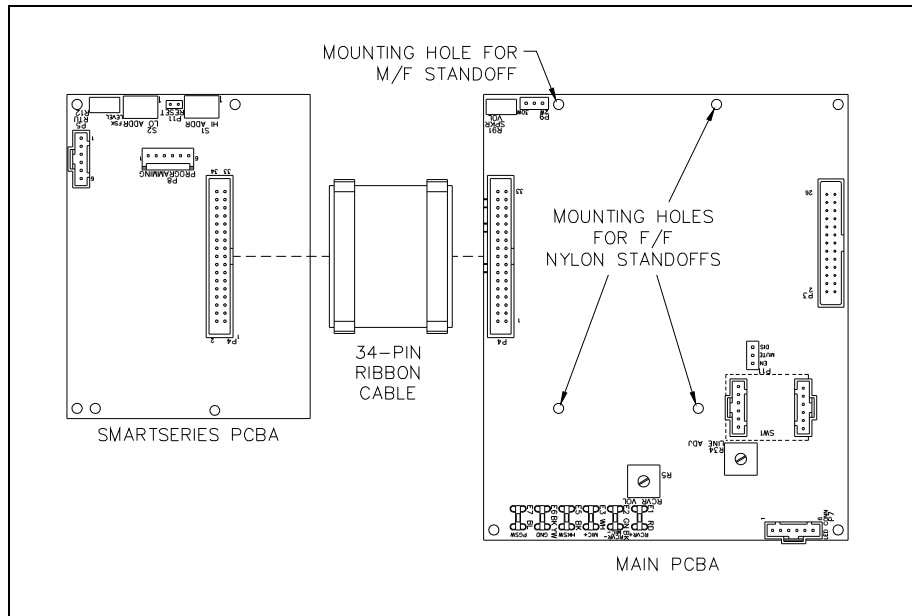

Figure 2.
4. Carefully flip over the Main PCBA and attach three nylon standoffs to the board using three $4 \times 5/16$ PHTF screws shown in Figure 2. Do not mount the SmartSeries PCBA to the Main PCBA at this time.
6. Reattach the Main PCBA to the front cover using three of the four screws removed. Use the M/F standoff in the fourth hole to secure the Main PCBA. See Figure 2.